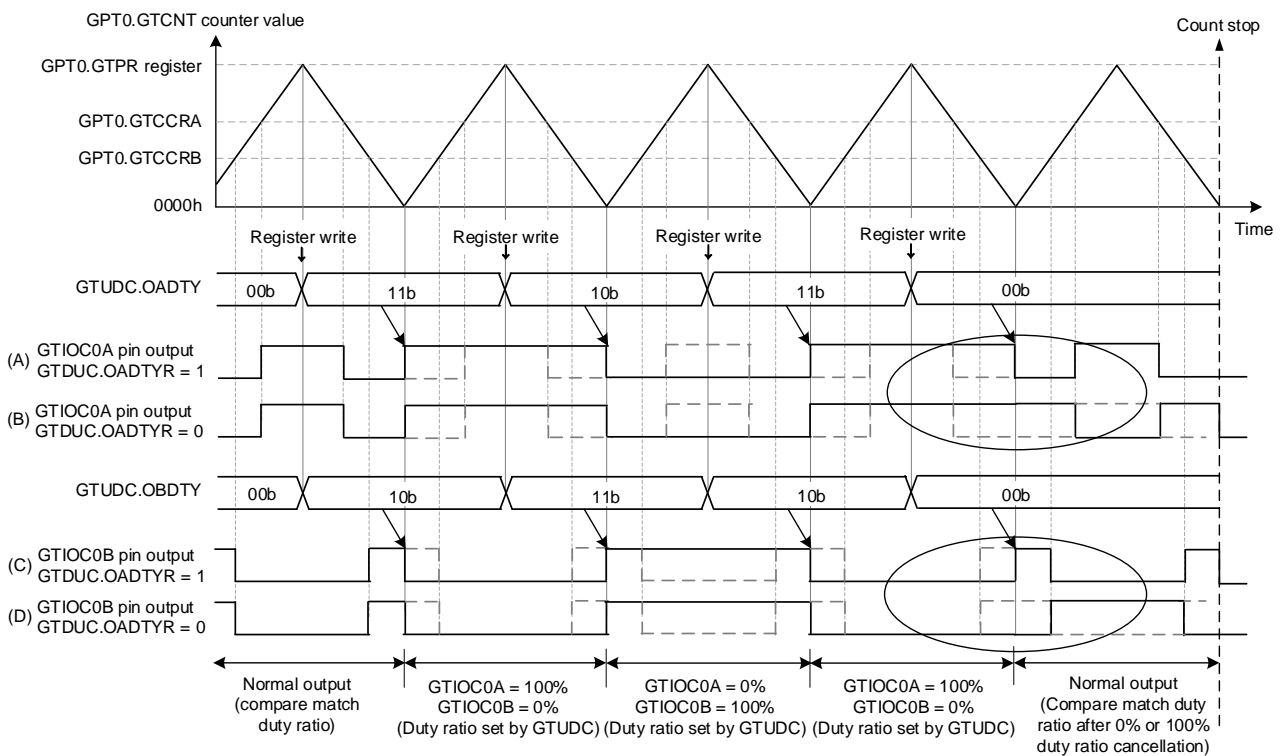

Figure 4.2 Example of Settings for Duty Ratio (Count Operation) and Output After Duty Ratio Cancellation
The output after the duty ratio (0% or 100%) is canceled is selected by the OADTYR and OBDTYR bits. Refer to Table 4.2 for the correspondences between settings and output. Figure 4.2 shows the output waveform result when using rx24u_gpt_sample1.
GTDUC.OADTYR = 1 GTDUC.OBDTYR = 1 (Settings in sample code)	Non-inverted waveform output after cancellation of duty ratio (0% or 100%) GTIOC0A: See (A) in Figure 4.2. GTIOC0B: See (C) in Figure 4.2.